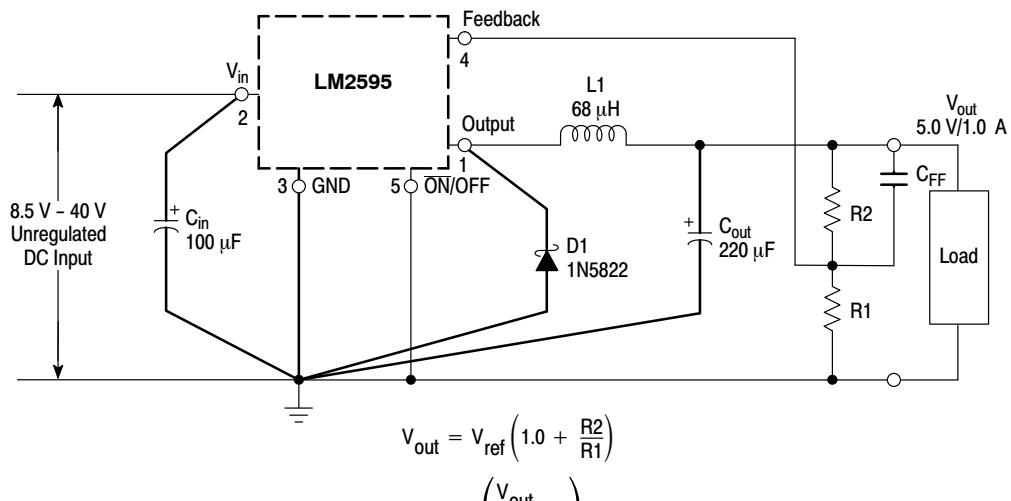

Figure 16. Typical Test Circuit
LM2595 (Note 1, Test Circuit Figure 16)
- External components such as the catch diode, inductor, input and output capacitors can affect switching regulator system performance. When the LM2595 is used as shown in the Figure 16 test circuit, system performance will be as shown in system parameters section.
## TYPICAL PERFORMANCE CHARACTERISTICS (Circuit of Figure 16)
As in any switching regulator, the layout of the printed circuit board is very important. Rapidly switching currents associated with wiring inductance, stray capacitance and parasitic inductance of the printed circuit board traces can generate voltage transients which can generate electromagnetic interferences (EMI) and affect the desired operation. As indicated in the Figure 16, to minimize inductance and ground loops, the length of the leads indicated by heavy lines should be kept as short as possible.